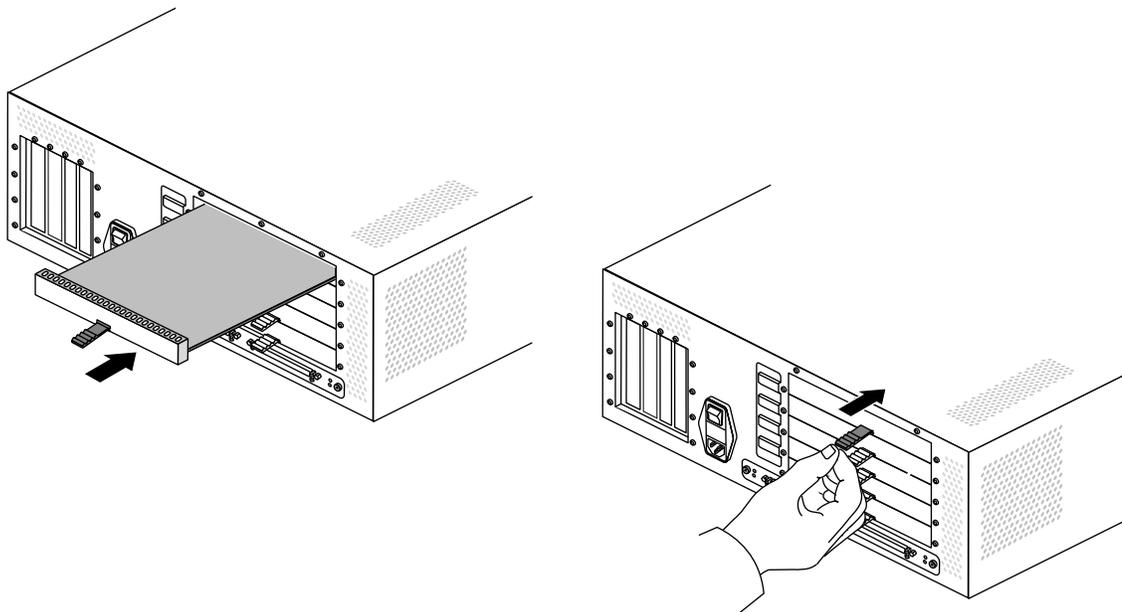

Figure 2-23 Installing an XIO Blanking Card in a GIGAchannel Expansion Cabinet
5. Install an XIO blanking card, as shown in Figure 2-23.